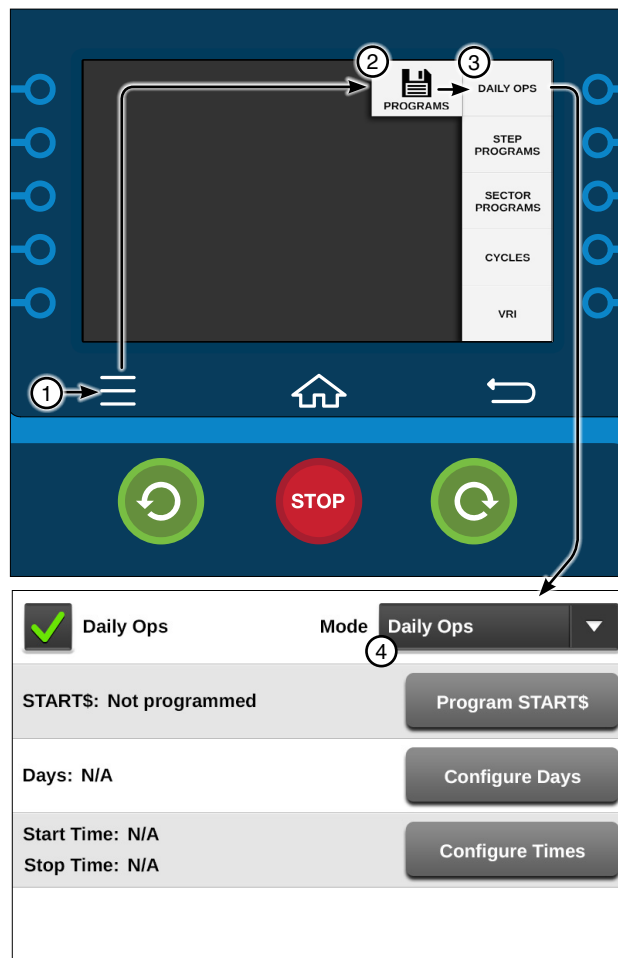

Figure 91-1 1. Menu
1. Push **Menu**, **Programs**, and **Daily Ops** to display the Daily Ops screen. Refer to Figure 91-1.